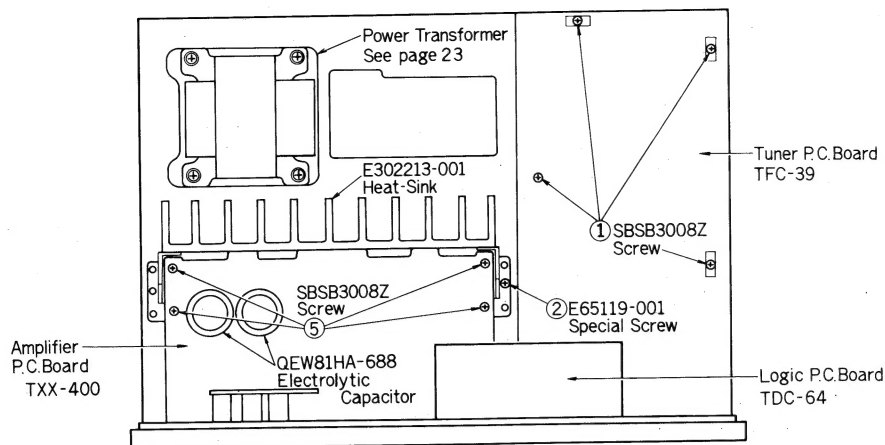

Fig. 3
- Step 1: Remove 5 screws ①, ②. (Fig. 3)
Step 5: Remove 4 screws ⑤ (Fig. 3) and heat-sink from Main Amp. P.C. Board Ass'y and then replace the transistors.